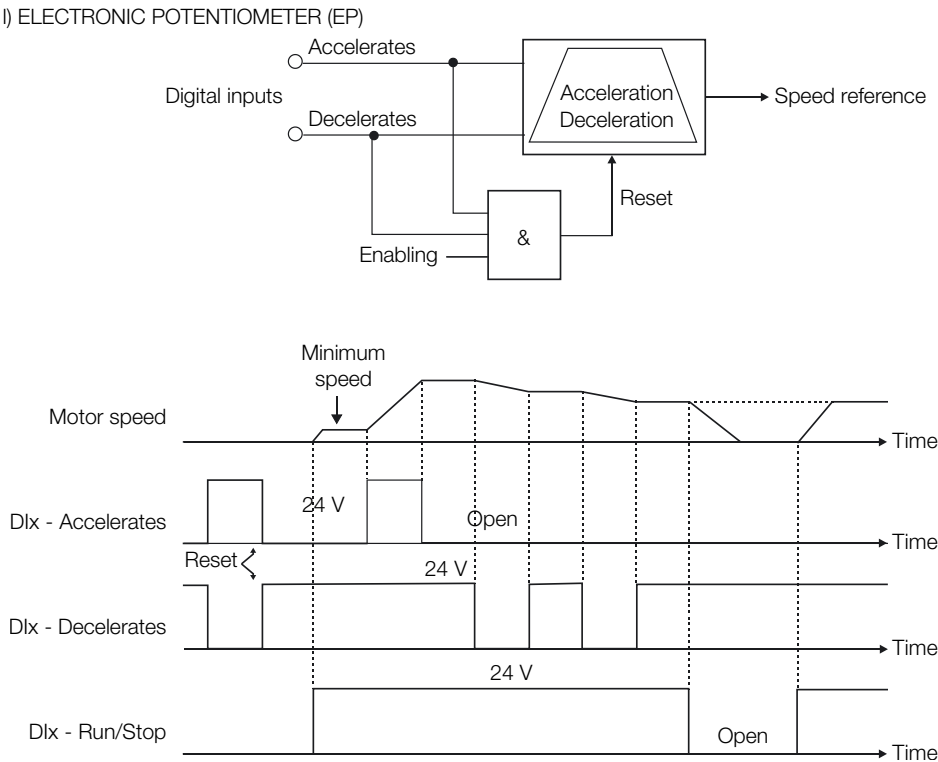

Figure 5.36 – (a) to (I) Details on the operation of the digital input functions
- The **‘Electronic Potentiometer’** (E.P.) function allows the speed reference to be adjusted through 2 digital inputs (one to increment it and the other to decrease it). To enable this function, you must first configure the speed reference for E.P., setting P0221 = 7 and/or P0222 = 7. After enabling this function, simply program DI3 or DI5 (P0265 or P0267 = 5) and DI4 or DI6 (P0266 or P0268 = 5). The operation of this function can be seen in Figure 5.36 on page 5-58. It is important to note that the increase of the reference is made with the application of 24 V at the digital inputs, while the decrease is done with the application of level 0 V. To reset the reference to zero, apply 24 V at the “Increase EP” input and 0 V at the “Decrease EP” input simultaneously with the inverter disabled. Thus: